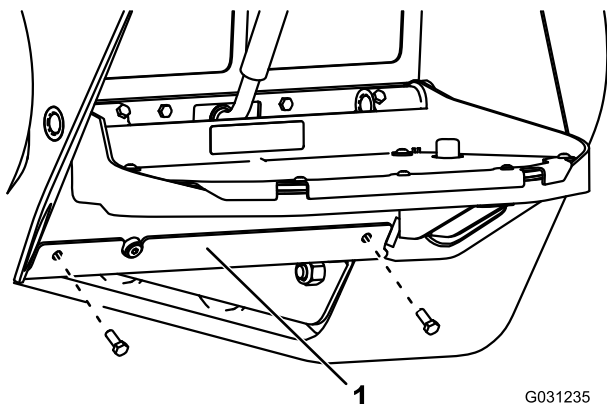

Figure 59
3. Remove the 2 bolts securing the bottom plate and remove the bottom plate (Figure 59).
7. Install the bottom plate (Figure 59).